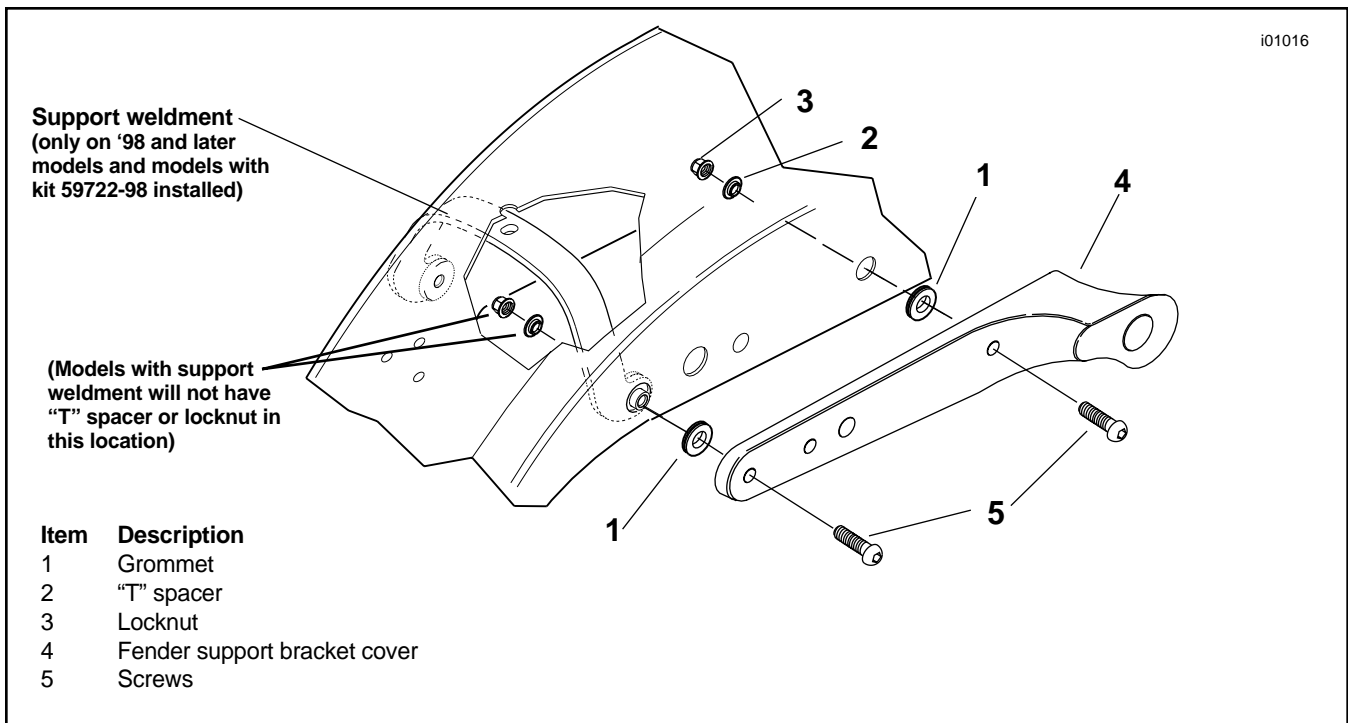

Figure 1. Rear Fender Support (right side shown)
See Figure 1. 1998 and later models, and models with kit number 59722-98 installed have a support weldment and do not have a locknut or "T" spacer behind the last hole of the fender support. The screw threads directly into the weldment.
1. See Figure 1. Remove the original bolts and locknut(s)\* from the two fender support bracket docking point locations. Leave the grommets (1) and "T" spacer(s)\* in place.
2. See Service Parts Illustration. Attach the docking points (2 & 3) as shown with the locknut(s)\* (4) on the inside of the fender. Coat bolt (1) threads with Loctite 242 (Blue) before installation. Tighten the locknut(s)\* (4) to 15 ft-lbs (20 Nm).